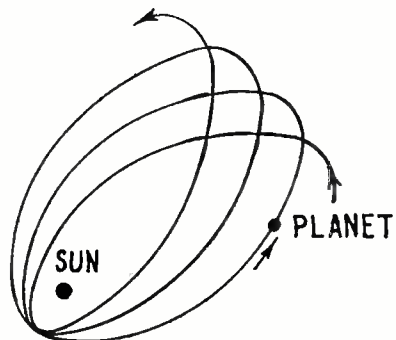
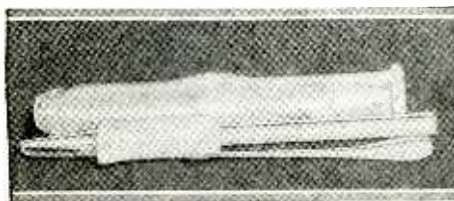

Fig. 2—Above is the orbit of the planet Mercury with the ellipticity and rosette both exaggerated.
Fig. 3—This illustration shows the two glass tubes bound together with a strip of adhesive tape. Note the relation of the tubes to each other.
**P:** I forgot. You have me there. Yes. I admit that Mercury's orbit is a sort of rosette instead of a perfect ellipse (see Fig. 2)—but there may be some disturbing factor that we have not taken account of.
Next, a length of smaller tubing was heated and drawn out into a narrow tube with a half bulb on one end (Fig. 2). Another piece of the same glass was drawn
Fig. 2—This shows the second stage in the making of the air brush. A small tube is heated and drawn out and the opposite end is enlarged. The details of this can be seen in Fig. 3.
The narrower tube was heated on the narrow end and bent to a right angle and then broken off. The hole was so small that the very point of a fine needle just fitted it. The other end has a large bulb, into which colors may be dropped when the brush is completed. The tubes are next fastened together with a strip of adhesive and the same relationship or closeness as shown in Fig. 3 must be obtained, so that air passing through the larger tube will strike the curved tip of the small tube in such a way to carry away in a fine spray small quantities of color held in the latter.
The above photograph shows one of the commercial stroboscopes which employ a neon tube and give remarkable results. The arrangement of an electric flash stroboscope is shown in Fig. 3.